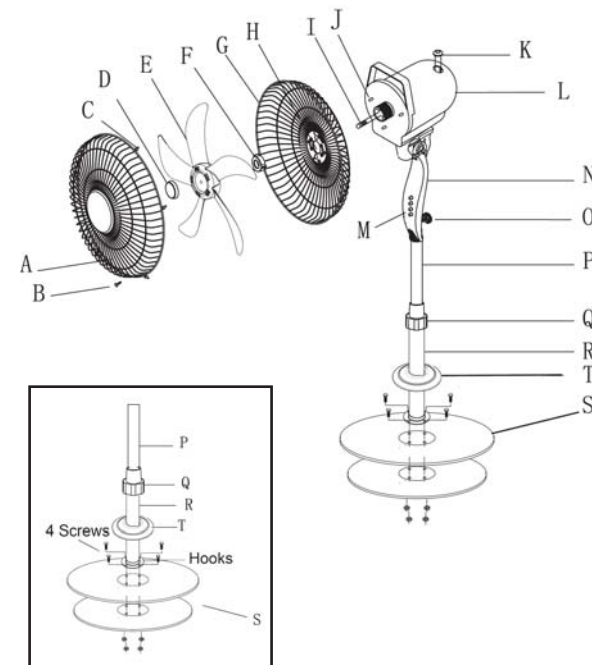

Figure 2
- 1- Loosen and remove the four screws from the base bars (S).
- 2- Cross the two base bars (S) and align the four holes with those on the flange – See Figure 2.
- 3- Secure the flange to the base bars (S) with the four screws – See Figure 2.
- 4- Slide the base cap (T) down to cover the screws – See Figure 2.
- 5- Pull up the inner pipe (P) from the outer pipe (R) and hold tightly by tightening the Height adjustable screw (Q).
- 6- Place the fan body (N) to the inner pipe (P) and hold tightly by tightening the Body lock nut (O).
- 7- Unscrew (turn counter-clockwise) the rear guard lock nut (F) from the shaft (I) end of the motor unit (L).
- 8- Mount the rear guard (G) onto the motor front plate (J) by matching the Rear guard holes (H) on rear guard to the 3 positioning round pins on the motor front plate (J).
- 10- Secure the rear guard (G) to the motor unit (L) with the rear guard lock nut (F).
- 11- Insert the fan blade (E) on to the motor shaft (I). Be sure the pin in the shaft (I) is match with the slot on the fan blade (E). Press firmly until the fan blade stop. Secure the fan blade with the fan blade cap (D), turning counter-clockwise to tighten.
- 12- Test the fan blade operation by rotating it with your hand. There should be no friction with the rear guard lock nut (F). If the blade does not rotate freely, disassemble and repeat the procedure.
- 13- Attach the front guard (A) to the rear guard (G) by positioning the hook on top of front guard (A).
- 14- Lock the front guard (A) and rear guard (G) by the Grill clips (C) on front guard (A).